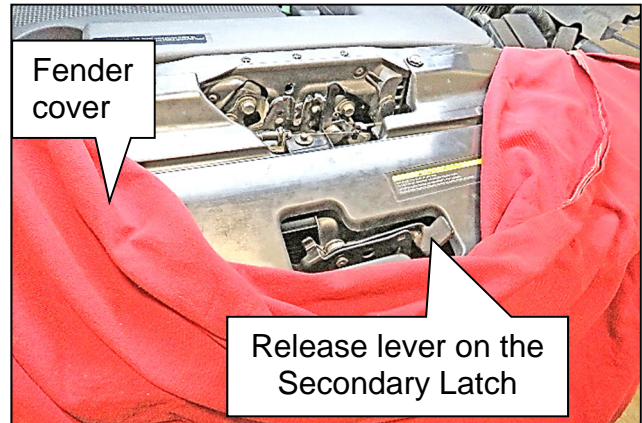

Figure 1
2. Place a clean fender cover to protect the core support cover (Figure 1).